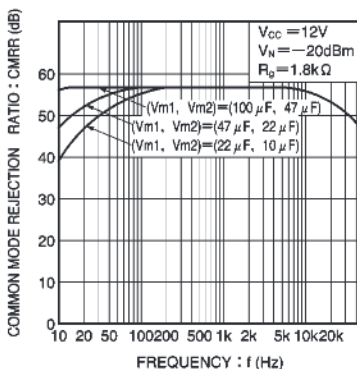

Fig. 16 Common-mode rejection ratio vs. frequency
(1) Maintain a ratio of 2: 1 for the values of the capacitors connected to pin 2 (V_{m1}) and pin 6 (V_{m2}) to keep the ripple rejection ratio stable. If this ratio is maintained, the ripple rejection ratio will not vary significantly even if the capacitance values are halved.
(2) If the value of the capacitor connected to pin 2 (V_{m1}) in the example is doubled, the bass-region CMMR will be +6dB, and if it is halved, it will be -6dB (see Fig. 16).